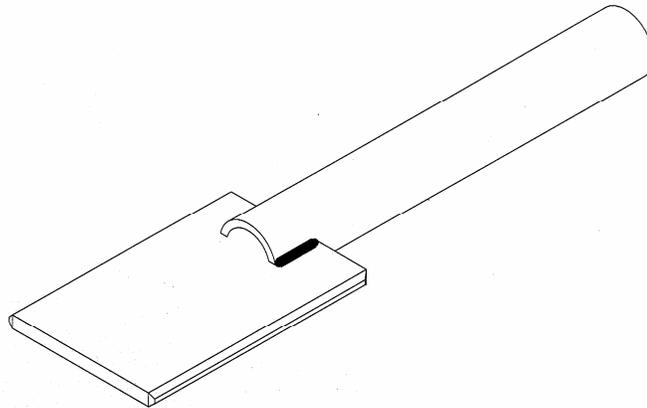

Figure 8 – RST Coupling Tool
3. Slide the RST repair coupling onto the casing and align the grooves using the RST Coupling Tool (Figure 8). Allow the cement to cure, according to the directions on the label.